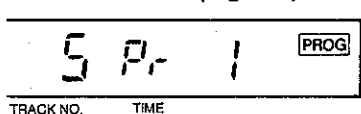

Fig. 13c
4. Press the MEMORY switch. The PROG indicator will remain "ON". (Fig. 13c)